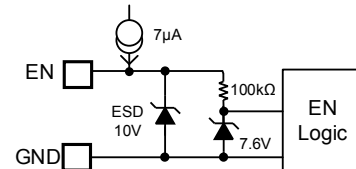

Figure 2: Zener Diode Between EN and GND
The MPQ4480 has an enable control (EN). There is an internal 7 μ A pull-up current, which allows auto start-up if EN is floated. Pull EN high or float to enable the IC; pull EN low to disable the IC. EN is clamped internally using a 7.6V series Zener diode and a 10V breakdown voltage ESD cell (see Figure 2).